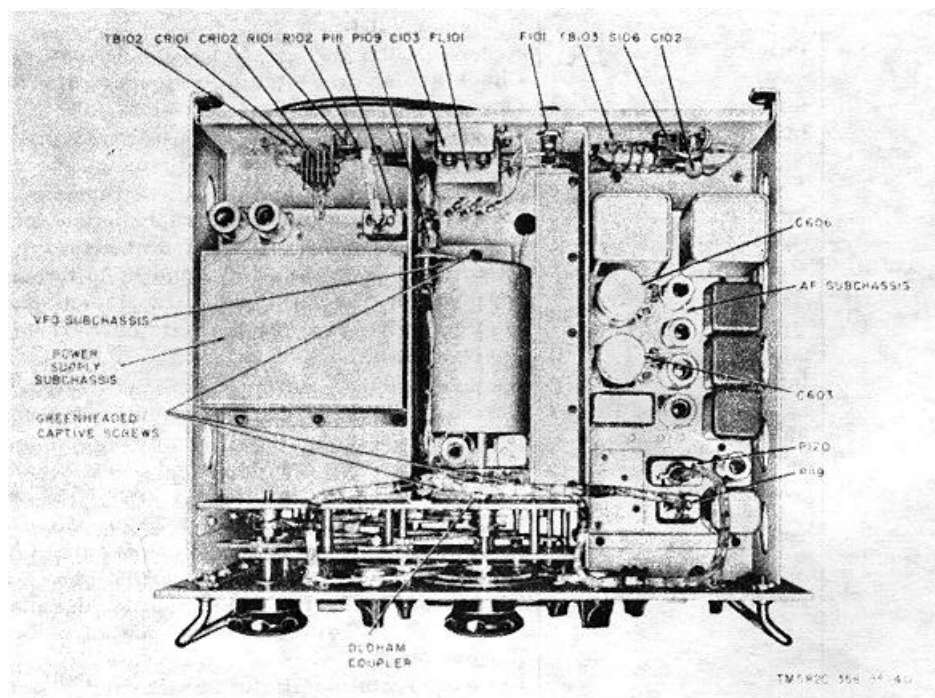

Figure 37. Radio Receiver R-390A/URR, bottom view.
- (1) Short circuits in the tube heater and/or oven circuits usually blow the AC 3 AMP fuse on the rear panel on the receiver. Disconnect all power/plugs except Pill (fig. 37) from the power-supply subchassis and apply ac power to the receiver. Turn the FUNCTION switch to STAND BY. If tubes V801 and V802 in the power-supply subchassis light and fuse F101 does not blow, the trouble is in one of the other subchassis. If the fuse blows, the trouble is in the power-supply subchassis or main-frame wiring. Follow the procedure in (2) below for locating the tube filament or oven short.
- (2) Remove all tubes and the power plug from the subchassis to be tested. Check between the terminals listed in the chart below and ground,